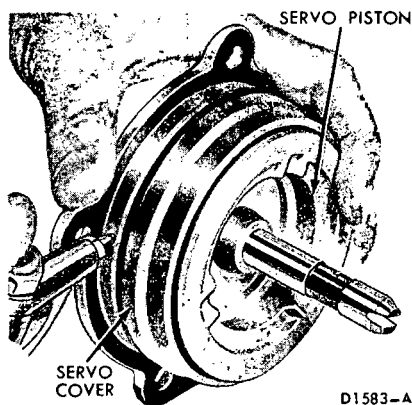

FIG. 59—Removing Intermediate Servo Piston—6 Cylinder Engine
3. On a transmission used with six cylinder engines, remove the intermediate servo piston from the cover by inserting air pressure into the pressure hole in the cover (Fig. 59).